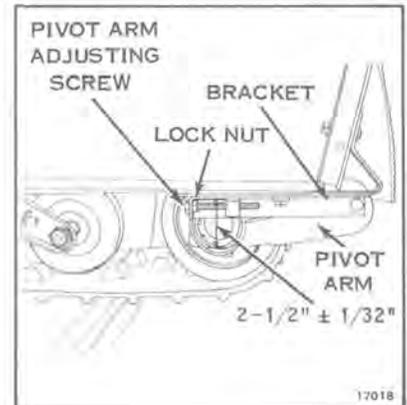

Figure 11-3
Track tension is correct if the distance from the bottom of the pivot arm bearing bore to the bottom of the adjusting bracket is $2-1/4" \pm 1/32"$. See Figure 11-3.
- b. Loosen track tension lock nuts and lock nut on pivot arm adjusting screw. See Figures 11-3 and 11-4.
- c. Turn pivot arm adjusting screw to obtain the correct $2-1/2" \pm 1/32"$, as shown in Figure 11-3.